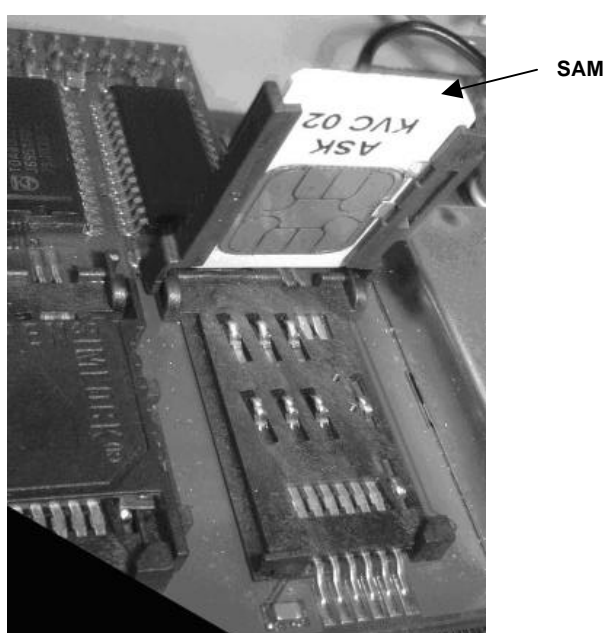

Figure 8 : SAM in open door
**Caution :** In a first time,  $\mu$ SIM SAMs must be gently inserted in the open door socket (Figure 8), then in a second time the door should be locked.